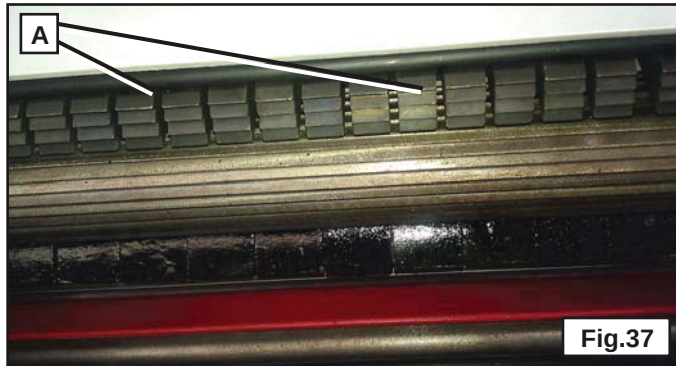

Fig.37
⚠ WARNING: When inspecting and cleaning the anti-kickback fingers, disconnect the machine from the power source. A series of anti-kickback fingers (A) Fig.37 are provided on the infeed end of the planer. These anti-kickback fingers operate by gravity and no adjustment is required. However, you should inspect them occasionally to confirm that they are free of gum and pitch and that they move and operate correctly.